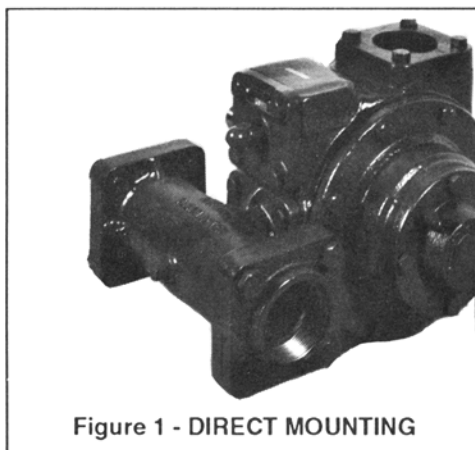

Figure 1 - DIRECT MOUNTING
For direct mounting on Blackmer 2, 2.5 and 3-inch truck pump models, the strainer takes the place of the intake pipe flange and bolts directly to the INTAKE port of the pump. To mount the strainer directly on the Blackmer pump, use four (4) strainer capscrews (Ref. No. 44) and flange gasket (Ref. No. 43A). See Figure 1.